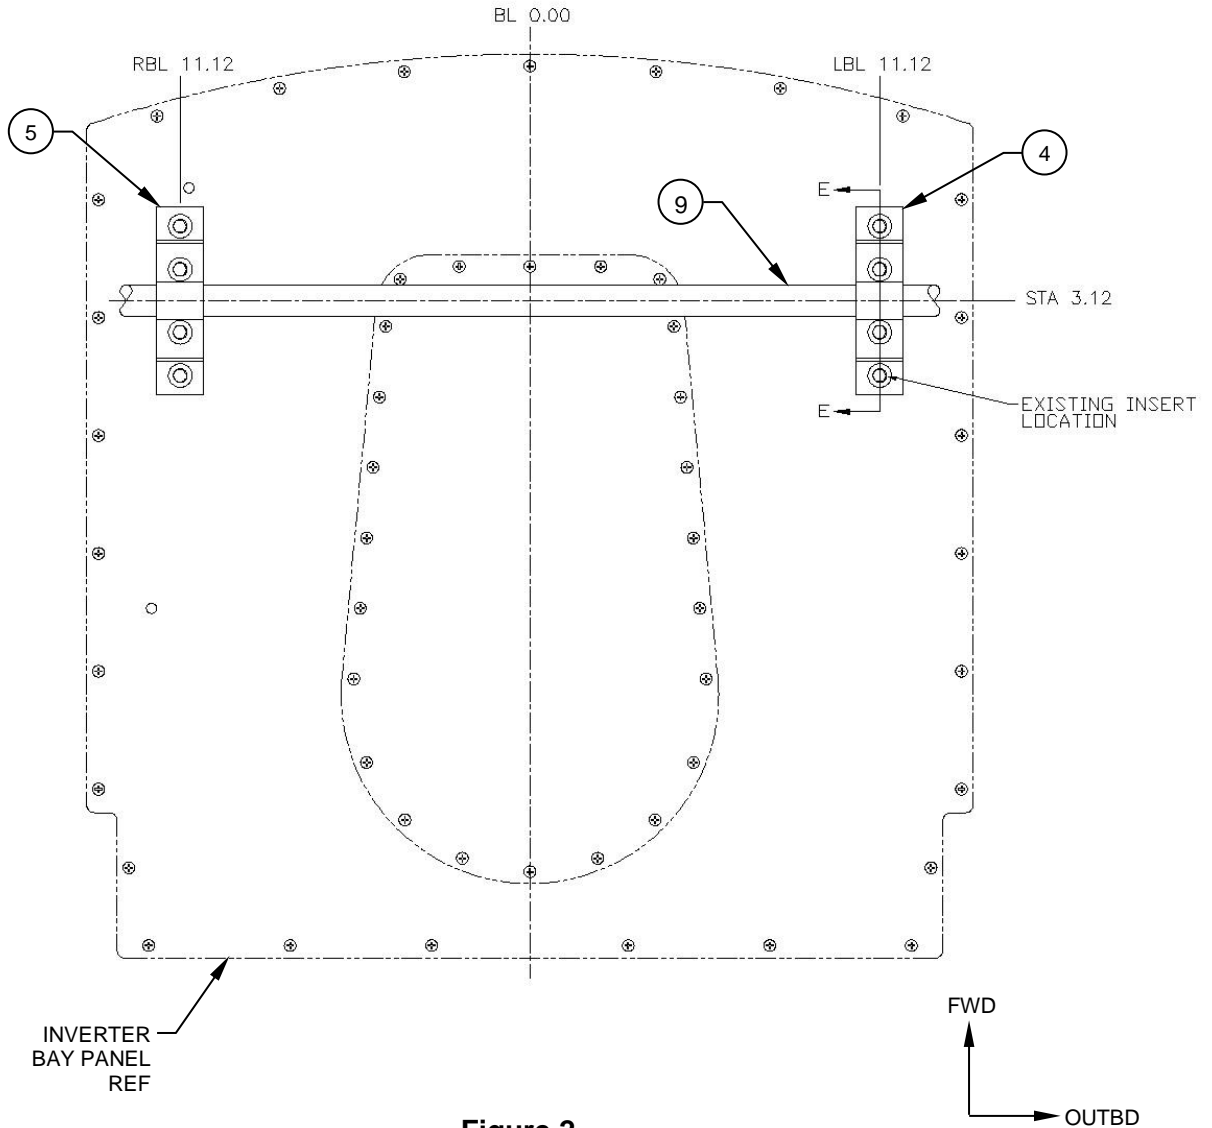

Figure 2
3. Locate the Mounting Block, Assy, LHS (Item 4) utilizing the existing insert on the left hand side of the panel, loosely install the Mounting Block, Assy with the supplied hardware. Reference Figure 2.
4. Place the Mounting Block, Assy, RHS (Item 5) in its approximate location on the panel. Reference Figure 2.